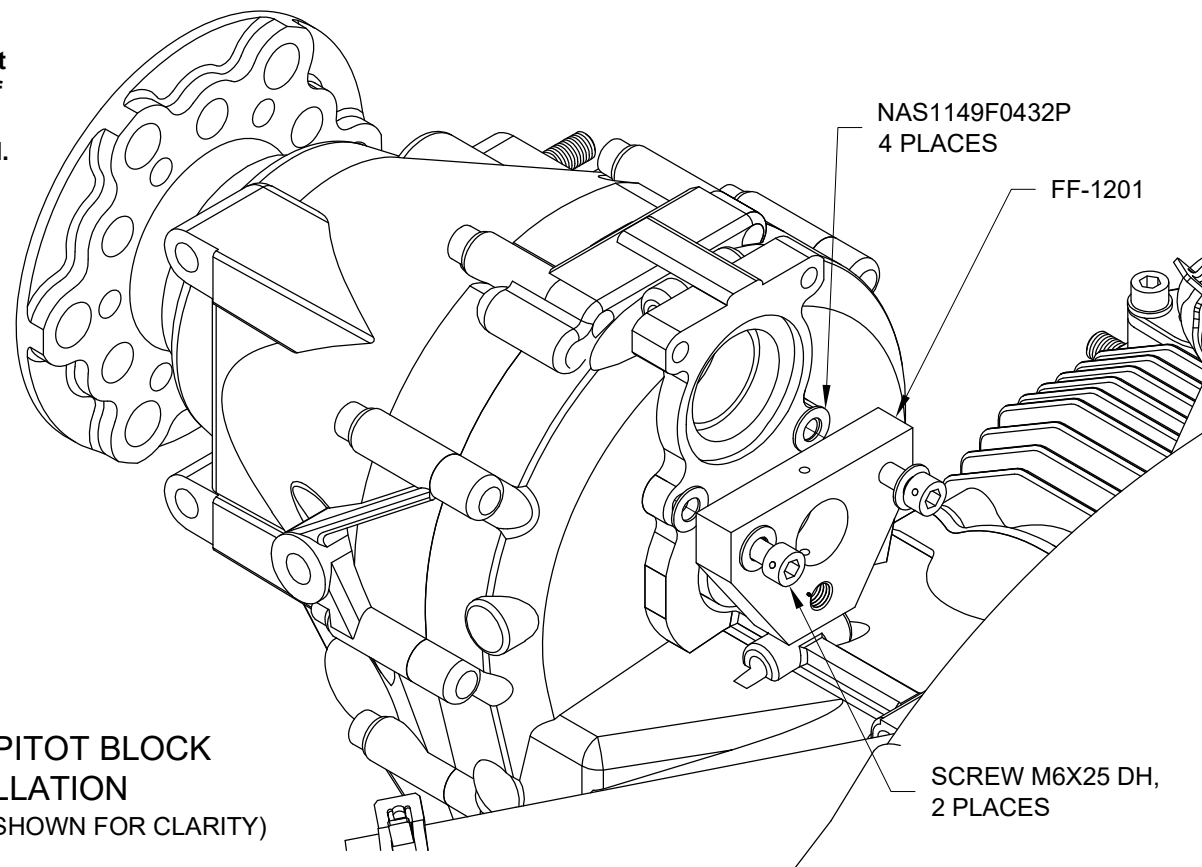
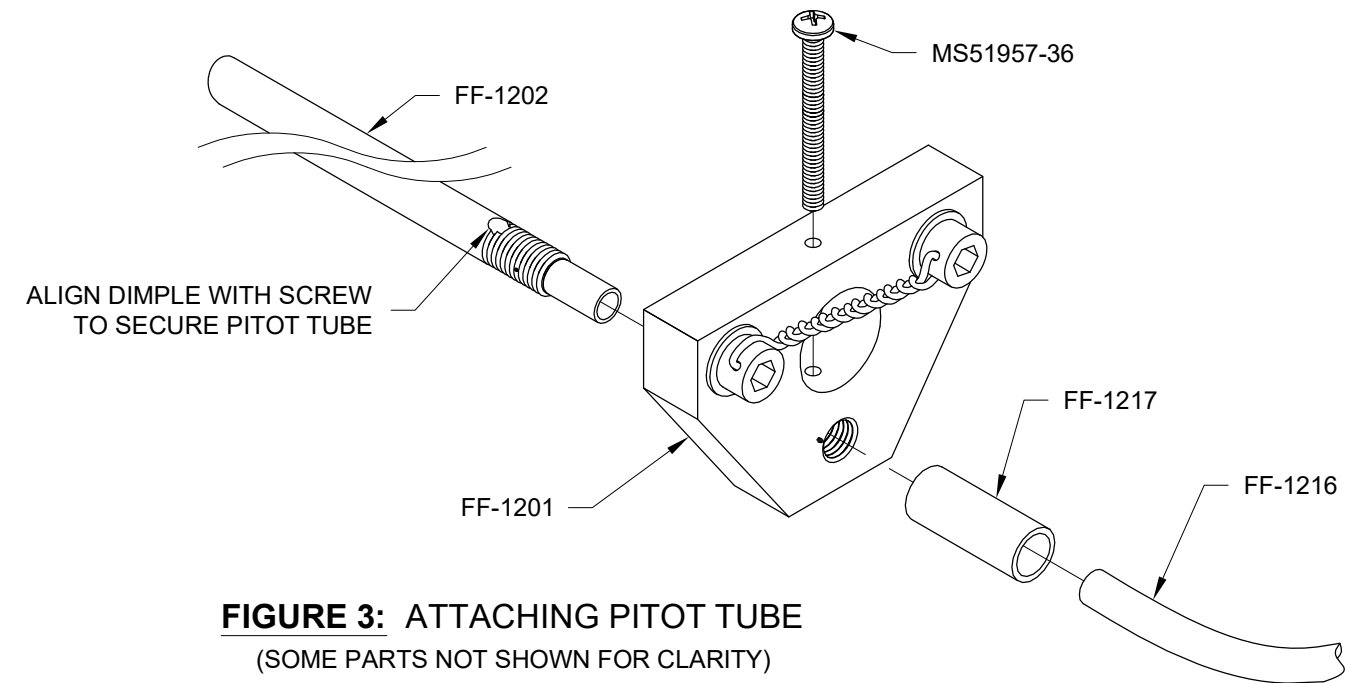
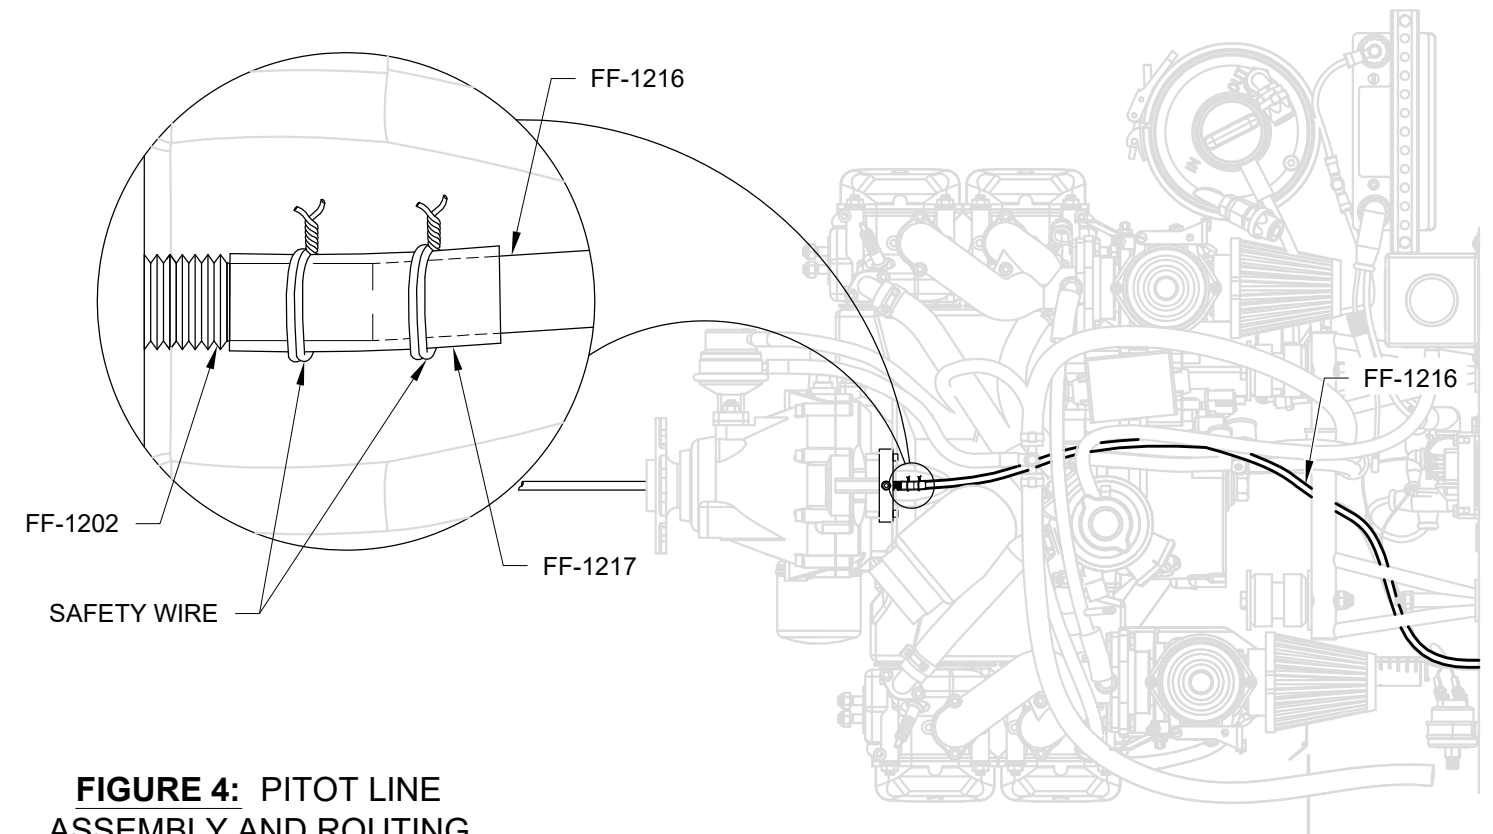

FIGURE 2: PITOT BLOCK INSTALLATION
FIGURE 3: ATTACHING PITOT TUBE
FIGURE 4: PITOT LINE ASSEMBLY AND ROUTING
Step 5: Mount the FF-1201 Pitot Block with the hardware called out in Figure 2. The pitot block should be mounted with the threaded half of the pitot block aft. Turn the cap screws until they touch the surface of the washer, turn an additional 1/4 turn and stop. Safety wire the cap screws together as shown in Figure 3.
Step 6: Insert the locking screw shown in Figure 3 to "tap" the #36 hole in the FF-1201 Pitot Block. Remove the screw and insert the FF-1202 Pitot Tube through the prop shaft and into the pitot block. Turn the pitot tube until the marks made on the pitot tube and pitot block align. Insert the locking screw as shown in Figure 3 and tighten by hand until it just bottoms on the pitot tube. Check that the front of the tube is properly oriented. The head of the locking screw will not be in contact with the pitot block.
Step 7: Route the FF-1216 Pitot Line as shown in Figure 4. Cut a one inch piece of PT-SI-062X3/8X1.5 TUBE to make the FF-1217 Pitot Interconnect and slip it over the end of the pitot line and the aft end of the FF-1202 Pitot Tube as shown in Figures 3 and 4. The pitot line and pitot tube should butt against each other.
Step 8: Double wrap safety wire around the FF-1217 Pitot Interconnect as shown in Figure 4.